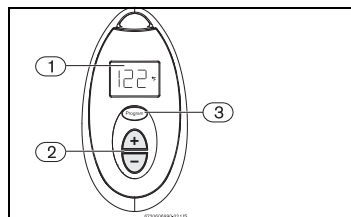

Fig. 12 Memorizing water temperature
- ▶ Press the buttons Δ or ∇ on the remote control (Fig. 12, pos. 2), until the required temperature appears on the remote control display (Fig. 12, pos. 1).
control (Fig. 12, pos. 3) for 3 seconds.